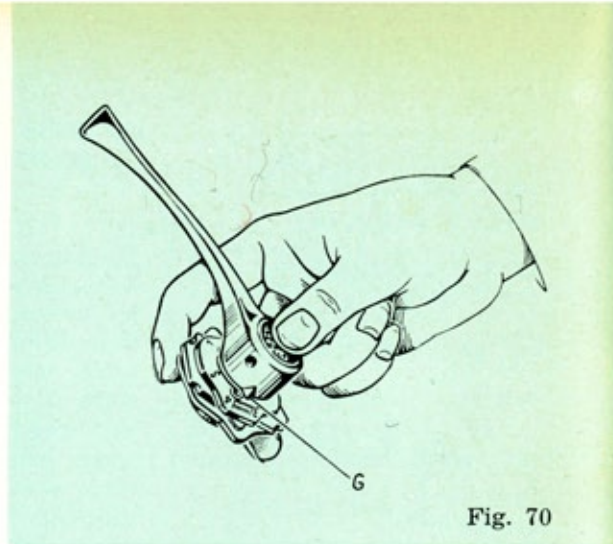

Fig. 70
- Press cam-group as shown on Fig. 70 and put index « G » in correspondence with the desired buttonhole.